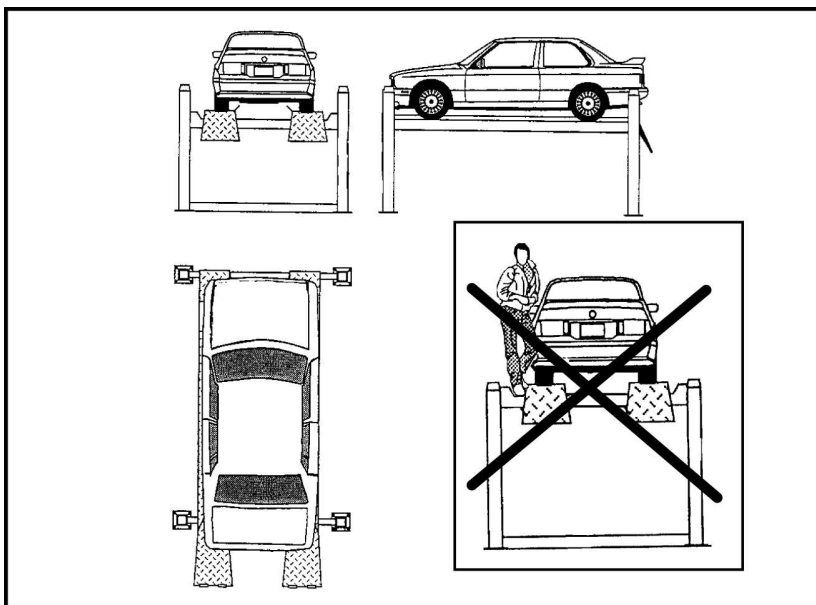

Fig.22 Correctly positioned vehicle
- make sure the vehicle is positioned correctly (see Fig.22);
- make sure that there are no persons on the platforms during up and down movements and when the lift is stationary (see Fig.22).